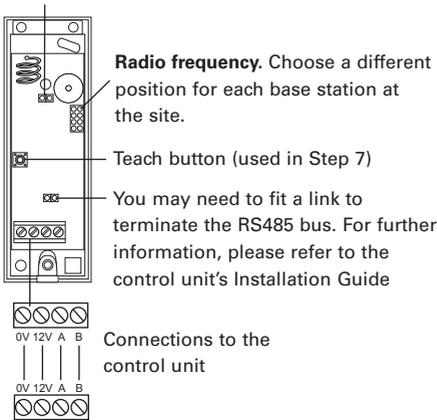

Figure 3. Base station wiring and links
4. Connect the wiring and links (Figure 3). **Leave the front cover off until Step 8.**
- Wait for the green LED in the base station to flash repeatedly, then press the **Teach** button (Figure 3).